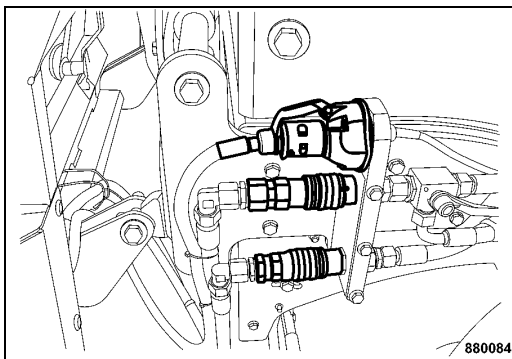

Fig. 92
- Disconnect the chip spreader hydraulically and electrically from the machine (Fig. 92).